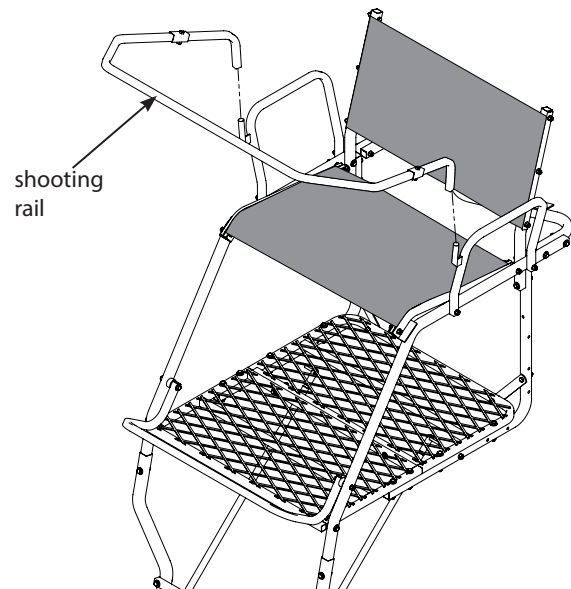

Figure 21
18.a. Attach the removable shooting rail by setting rail down over studs provided on armrests **SEE FIGURE 21. Lubrication is recommended to prevent binding and noise.**
b. Attach the (2) provided 9" and (1) provided 54" camo foam pads to the armrests and shooting rail by wrapping around tubing and attaching Velcro together.